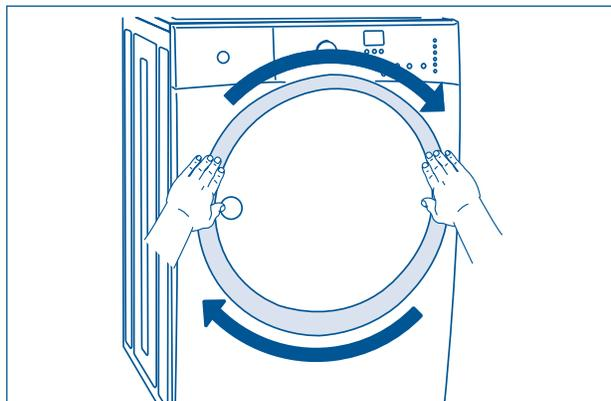

Figure 2-37.
3. Insert the trim ring in the slots and rotate it clockwise approximately $\frac{3}{4}$ ". (See Figure 2-37)